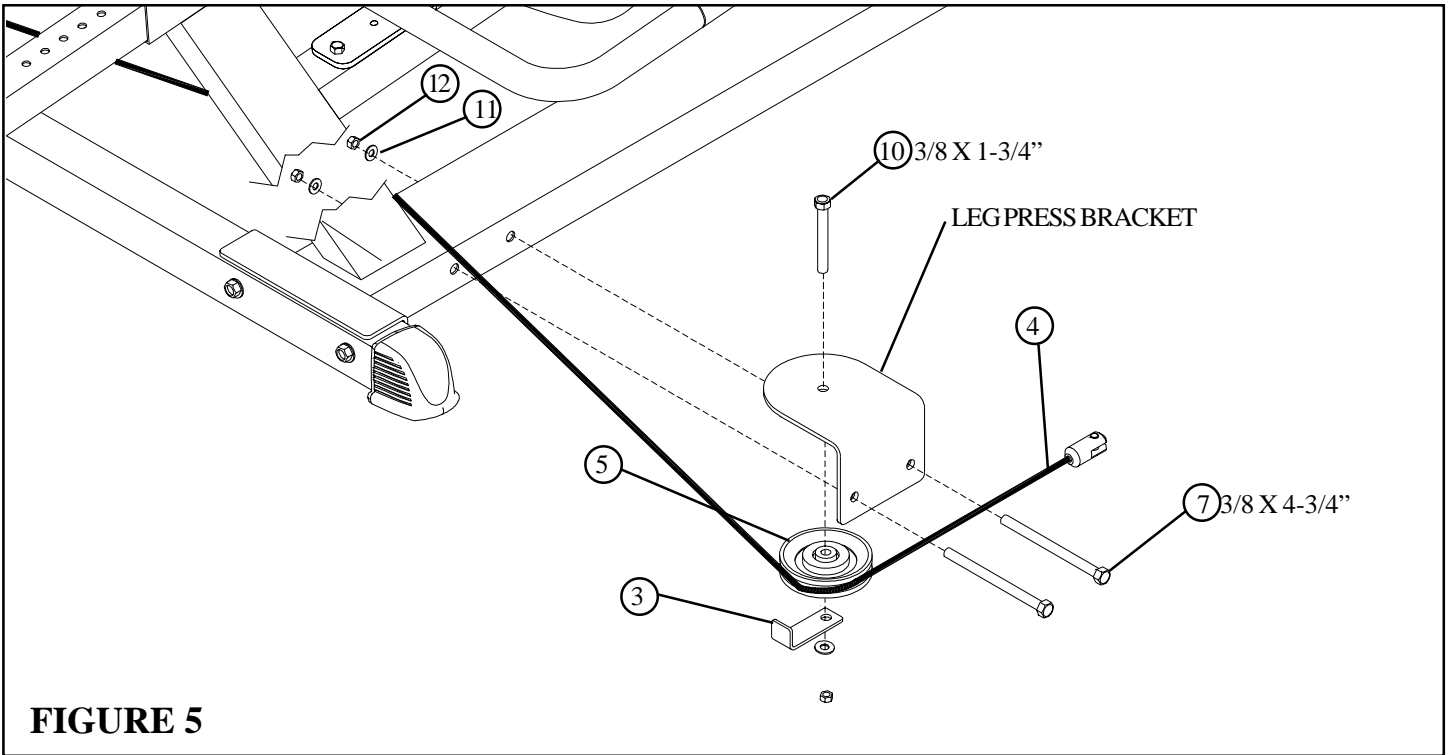

**FIGURE 4**
- Screw the threaded end of the LEG PRESS CABLE (4) into the end of the FLOATING PULLEY BRACKET. Secure the CABLGUIDE in place with the JAM NUT on the GUIDE CABLE. See FIGURE 4(a)
- Route the LEG PRESS CABLE (3) around one 3-1/2" PULLEY (5) and re-assemble the PULLEY to the FLOATING PULLEY PLATES using the BOLT, NUT and PULLEY which were removed. See FIGURE 4.
- Assemble one 3-1/2 PULLEY (5) to the PULLEY HOUSING (2) using one 3/8 X 1-3/4" BOLT (10) and one 3/8" LOCK NUT (12) as shown in FIGURE 4(b). **NOTE: CABLE MUST BE PLACED IN PULLEY HOUSING BEFORE INSTALLING PULLEY**